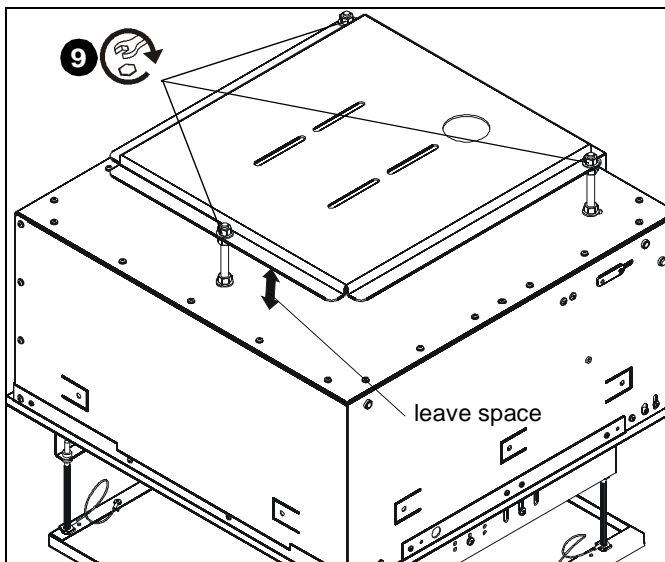

Figure 6
- Secure main plate near top of bolts by threading nuts together. Make sure to leave plenty of space between plate and SL-151 to allow for easy access in later steps. (See Figure 6)